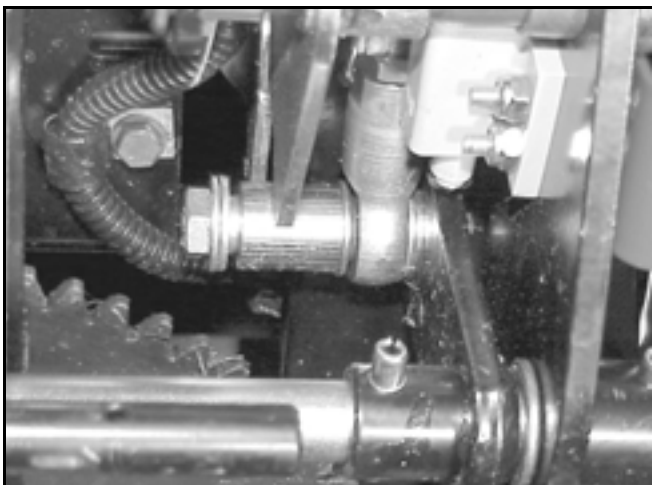

Figure 148
2. If adjustment is needed, unbolt the hydro control rod where it connects to the hydro forward/reverse pedal. The location is under the tractor on the inside of the frame (Figure 148).